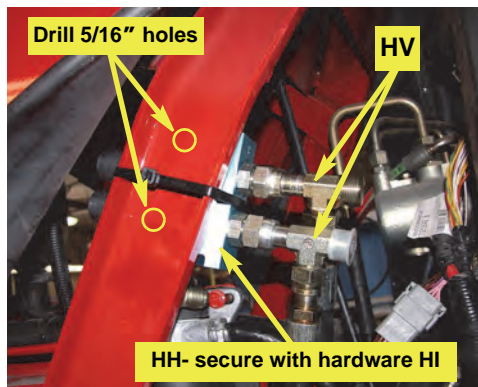

Figure 4b: Counterbalance valve location (you will connect hoses to the run-tees later)
b. Using counterbalance valve **HH** as a template, drill two 5/16" holes in the outer face of the left hood support slightly below the upper bend in the support (Figure 4b).
Using hardware **HI** (not shown) mount the counterbalance valve on the inside of the hood support with the run-tees **HV** in the 'C' ports toward the rear (Figure 4b - connect hoses to the run-tees later).